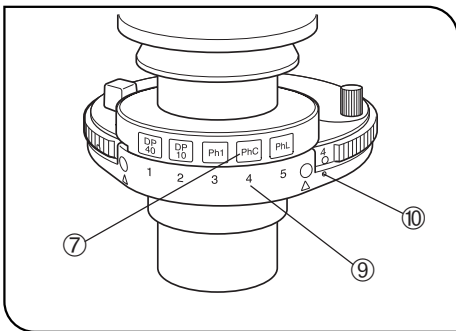

Fig. 50
6. Place the index ⑦ provided with each optical element in the index insertion hole having the same number ⑩ as the number of the position ③ in which the corresponding optical element is mounted. (Figs. 50 & 51)
⊙ The optical element with the number indicated by marking • ⑩ is engaged in the light path. (Fig. 50)